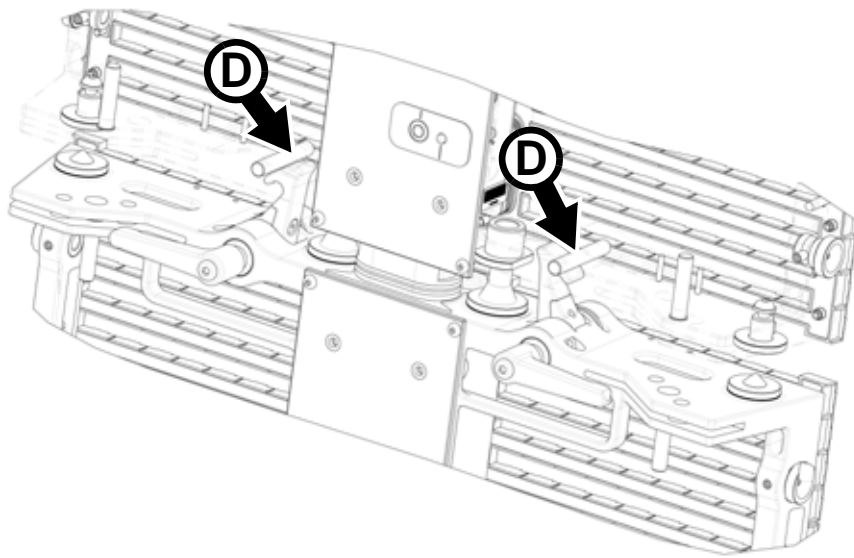

Figure 10: Hooks open around locking posts (cutaway view)
- See Figure 10. Continue lifting the panel so that its spring-loaded locking hooks are pushed open by the locking posts **D** in the Header or panel above.